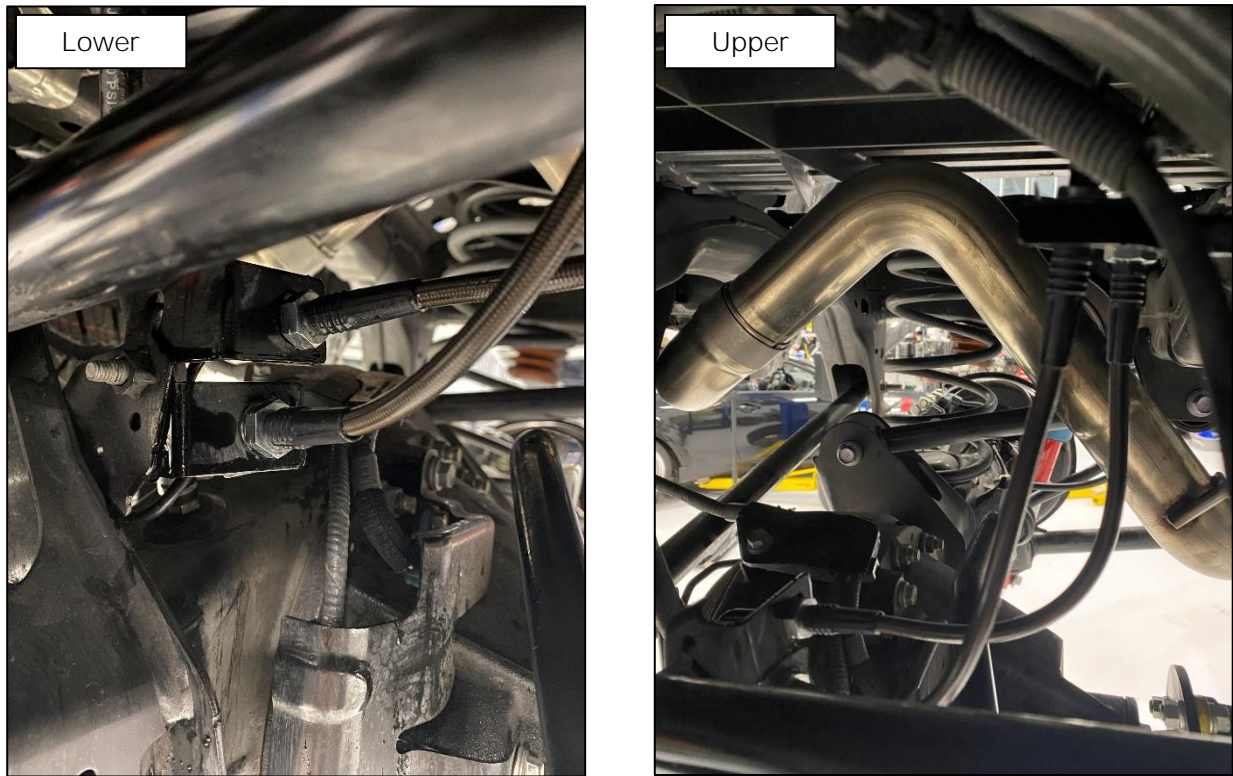

Figure 16
3. Remove the (2) two Retaining Clips securing the OE Soft Line to the mounting brackets and fully remove the OE Soft Brake Line. Retain the Clips as they will be reused.
4. Locate (1) one Rear Inner Brake Line. These are the shortest lines with straight fittings on each end of the line. Connect the line to both the Upper and Lower Brake Hard Lines. Use wrenches to tighten the Brake Lines together to secure them together. *Figure 16.*